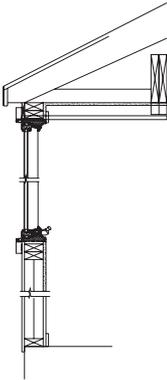

Figure 5
c. Stem wall/slab support - the wall framing projects directly below the window onto a stem wall or concrete slab (see figure 5).